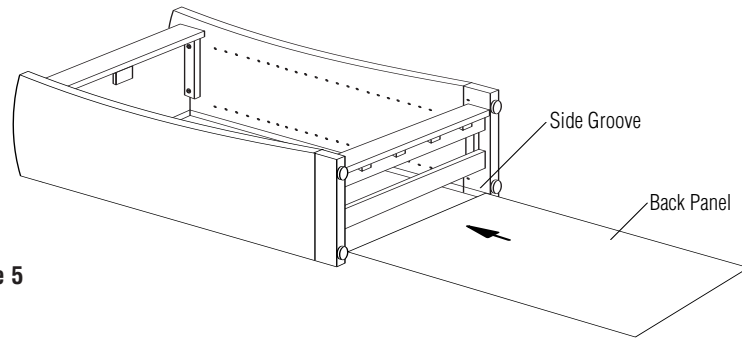

Figure 5
9. For optional back panel, slide the back panel into the side grooves of the assembled units and slide into top groove. Insert #8 x 5/8" screws into the groove directly below the back panel to keep the panel raised off the floor (Figures 5 & 6).